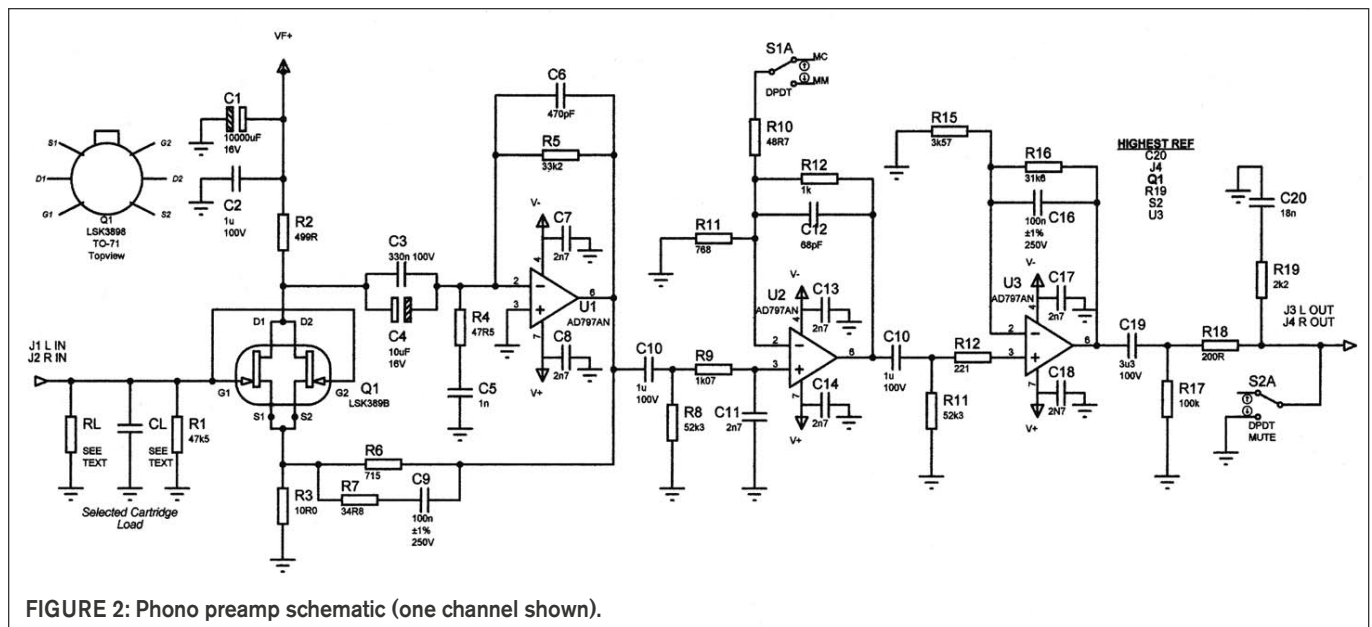
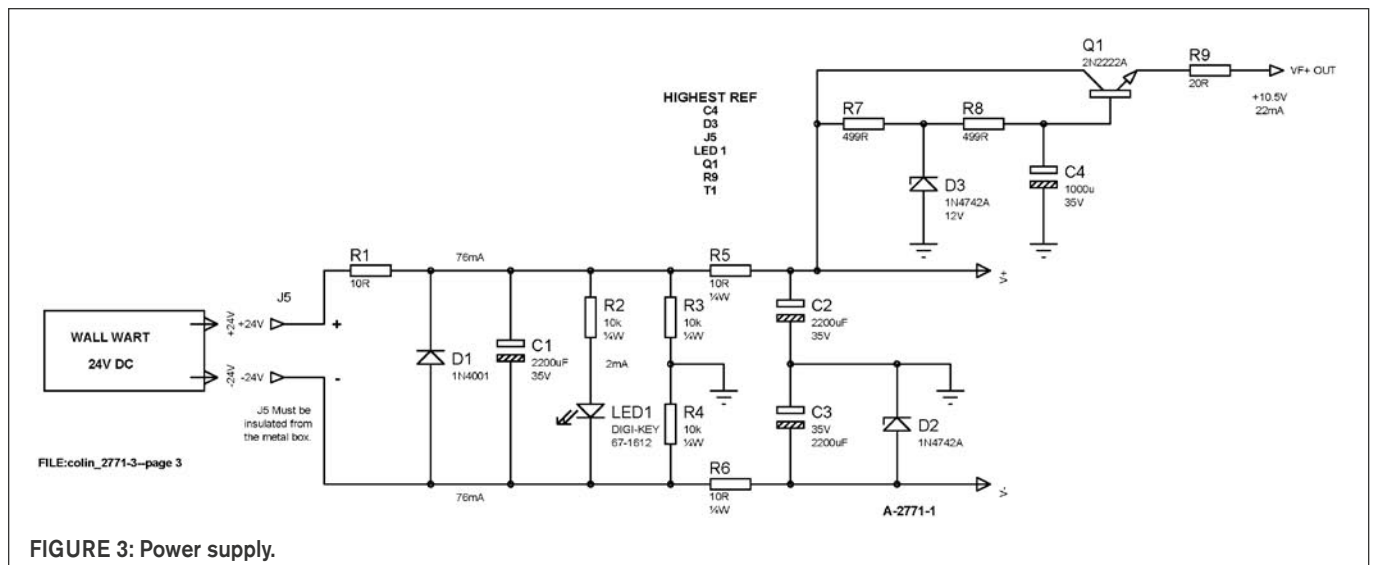

FIGURE 2: Phono preamp schematic (one channel shown).
FIGURE 3: Power supply.
For higher output cartridges, or for any reason, you can increase the 1kHz maximum input to 92mV RMS (130mV peak) by reducing the second stage (U2) gain from 7.2dB to 0dB. To do this, simply delete R11 in **Fig. 2**. (This will decrease the MC gain by only 0.5dB.) The maximum input at 20kHz (MM) will then be 510mV RMS (721mV peak). Doing this results in an overall preamp MM gain at 1kHz of 36.7dB. Output with 5mV RMS input is then 342mV RMS.
The op amps, with their 130dB power supply rejection ratio (PSRR), couldn’t care less what kind of DC you feed them, provided that their HF bypass caps (C7, 8, 13, 14, 17, 18 in **Fig. 2**) are closely grounded. So the simple RC ripple filtering of (**Fig. 3**) R1, C1, R3, R4, C2, C3 provides low enough 120Hz ripple (0.2mV RMS) such that the op amps attenuate it to 63 *pico* volts. They’re fed the V⁺ and V⁻ voltages.
The circuitry with Q1 and D3 provides excellent rejection of line fluctuations and ripple. However, I observed some LF noise from the D3 zener adding to the preamp’s noise floor, from about 5–40Hz. This was fixed by the filtering of R7 and the 10,000μF cap (C1 in **Fig. 2**), forming a 0.8Hz low-pass rolloff.
Note the role of D2 (**Fig. 3**), which clamps the V⁻ to -12V, leaving +12V for V⁺ and the Q1 circuit. I couldn’t have two zeners across the full DC input (about 26V, more on this later)—as this input
Here’s how D2 functions: As shown in **Fig. 3**, the total positive supply current is 76mA, which is drawn from the TI wall wart. Being a single (not bipolar) supply, TI must then draw this same 76mA from its negative terminal. But the negative supply output (V⁻) and the LED’s 2mA provide only 52mA. The difference, 24mA (the Q1 circuit’s current), is pulled through D2, which is thus happily kept on. Looks strange, but works well.
R1 (**Fig. 3**) will act as a fuse if there’s a short or reverse voltage applied.
If desired, you can use a regulated ±15V DC supply, which you must isolate from the AC line ground, but connect its common ±15V point to the preamp chassis ground. Referring to **Fig. 3**:
With this $\pm 15\text{V}$ supply and the “stock” U2 gain of **Fig. 2**, the preamp’s maximum input and output levels will increase by about 3dB.
with an MM cartridge, producing a $+20\text{dB}$ blast! The switches provide excellent chassis grounding of the board. You should connect the ground end of R3 (**Fig. 2**) to a ground lug on the input jack.
(949) 951-8808, and change R2 (**Fig. 3**) to 3k3.
I recommend reading Raymond A. Futrell’s “The LP Terminator,”² on how to obtain the flattest frequency response given the high inductance of MM cartridges. The LP797 preamp input capacitance (without CL in **Fig. 2**) is only 21pF, because the Q1 drains see the “virtual ground” of U1 (no Miller effect), and also because of the “bootstrapping” of NFB to the Q1 sources. Mr. Futrell shows how the right phono cables can provide optimum capacitance.